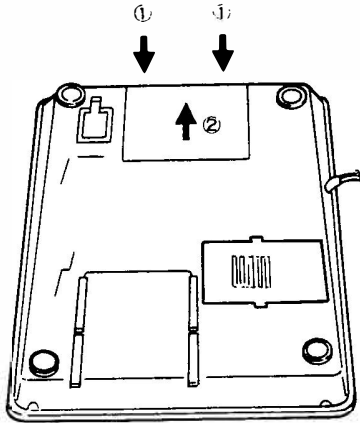

Figure 200-56 ADA-Z Unit Installation
- C. Locate the access panel at the top of the keyset. Press in slightly on the rear surface, then lift up. Refer to Figure 200-56 ADA-Z Unit Installation.